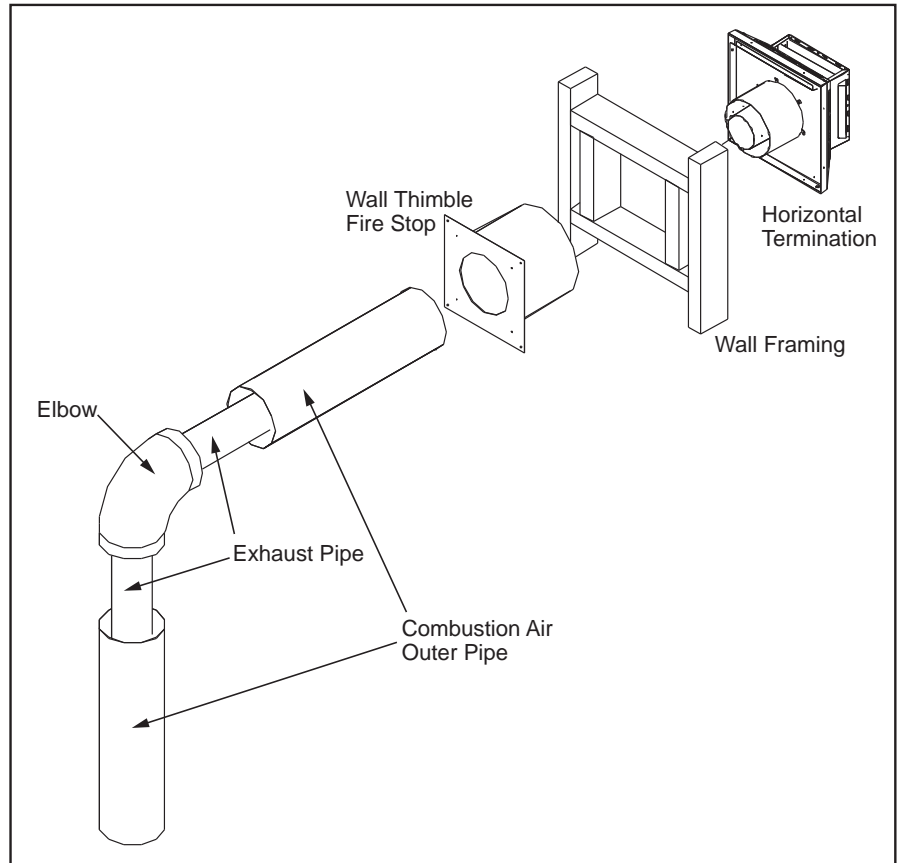

Figure 34. Horizontal Vent Termination
Step 3. With the pipe in the correct position and attached to the fireplace, mark the wall for a 10 inches (25.4 cm) x 10 inches (25.4 cm) square hole (see Figure 34). The center of the hole should match the center line of the horizontal pipe. Cut and frame the hole in the exterior wall where the vent will be terminated. If the wall being penetrated is made of a non-combustible material (i.e. masonry or concrete) a 7 inches (17.8 cm) hole is acceptable.